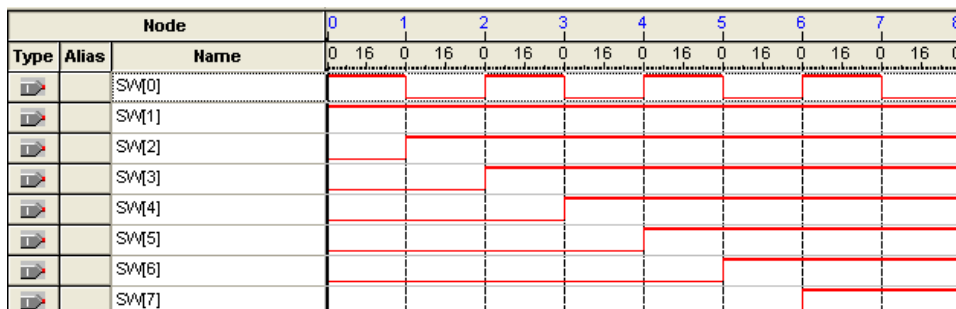

Figure 23. Possible waveforms that could result when using the Segmented Acquisition mode.
- Go back to the SignalTap II window and click **Processing > Run Analysis**. Now, flip SW[0] up and down, and in between flips change the values of the other 7 switches. After you have done this 8 times, the values in the buffer will be displayed in the data window, and this will display the values that the 8 switches were at around each trigger. A possible waveform is presented in Figure 23. This resulted from the user flipping up one more switch between each flip of SW[0].